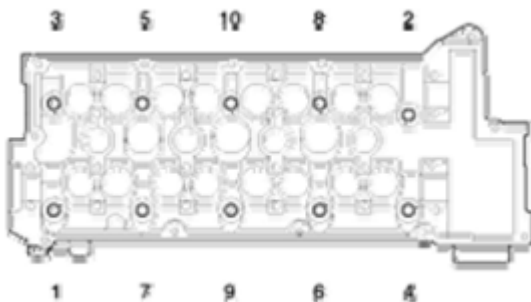

Fig. 19: Identifying Removal Sequence Of Cylinder Head Bolts
1. Using 8mm and 10mm hexagon wrench, uniformly loosen and remove the 10 cylinder head bolts, in several passes, in the sequence shown in **Fig. 19**. Remove the 10 cylinder head bolts and plate washers.